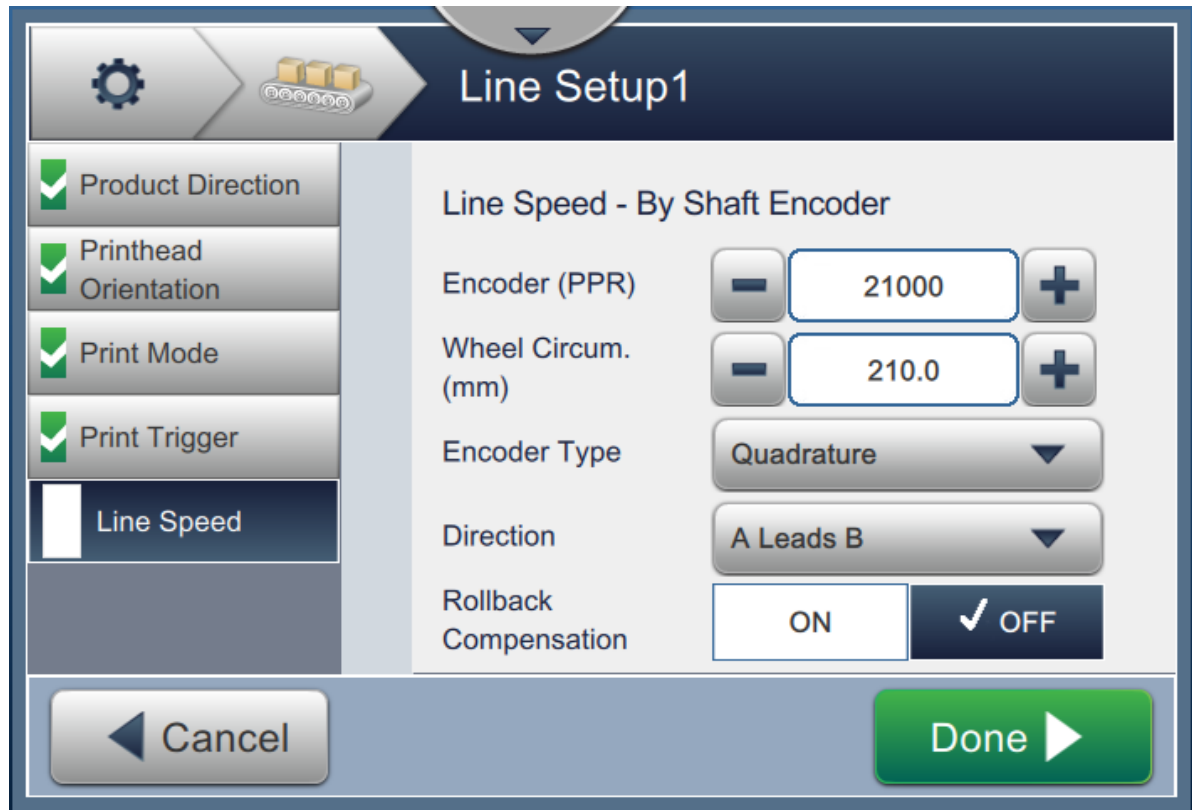

Figure 6-35: Line Speed - Measured by Shaft Encoder
2. Change the required parameters on the Setting screen as shown in Figure 6-35.